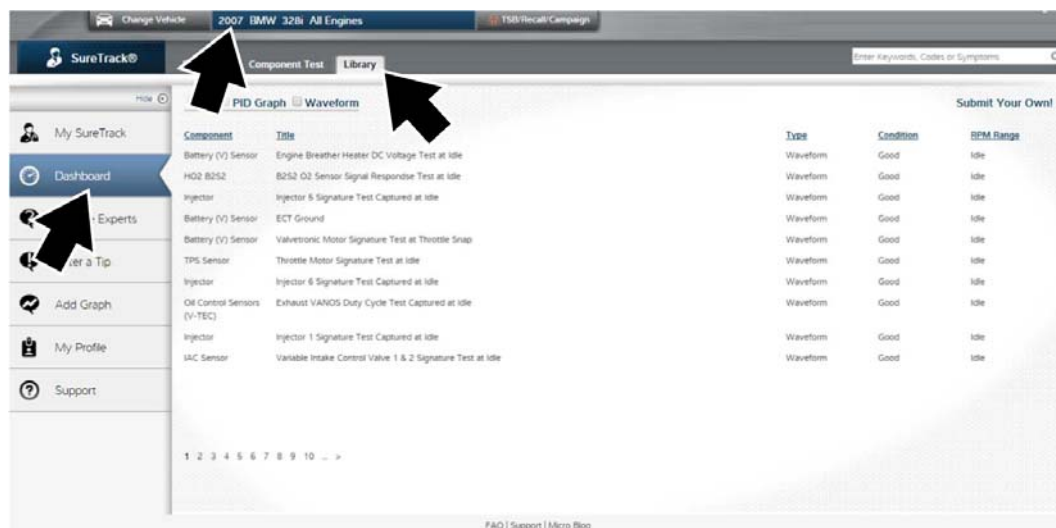

Figure 9-40 SureTrack - Library tab showing list of waveform examples
3. Enter (identify) the test vehicle details in the search field at the top of the screen (Figure 9-40).
4. Select the Dashboard tab (left side) (Figure 9-40).
If waveform and/or PID graph examples are available, the Library tab will be displayed at the top (Figure 9-40).
5. Select the **Library** tab (Figure 9-40). A list of examples is displayed and sortable by selecting the PID Graph and/or Waveform check boxes at the top.